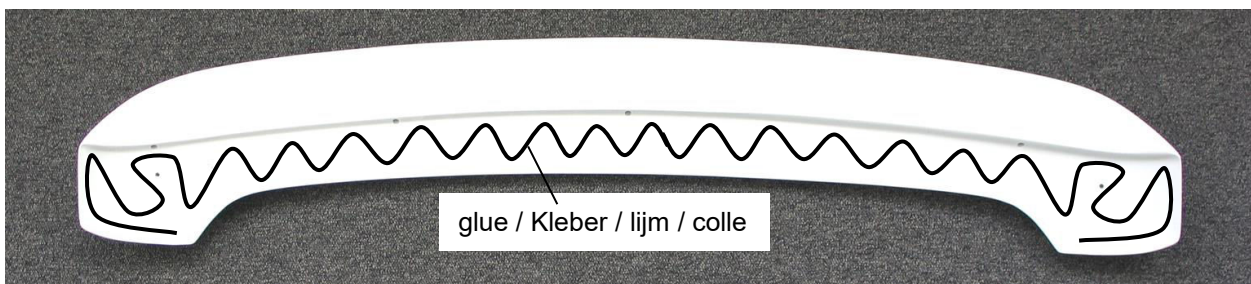

fig. 1
4. Apply the enclosed spoiler glue to the mounting surface of the spoiler (**fig. 1**).